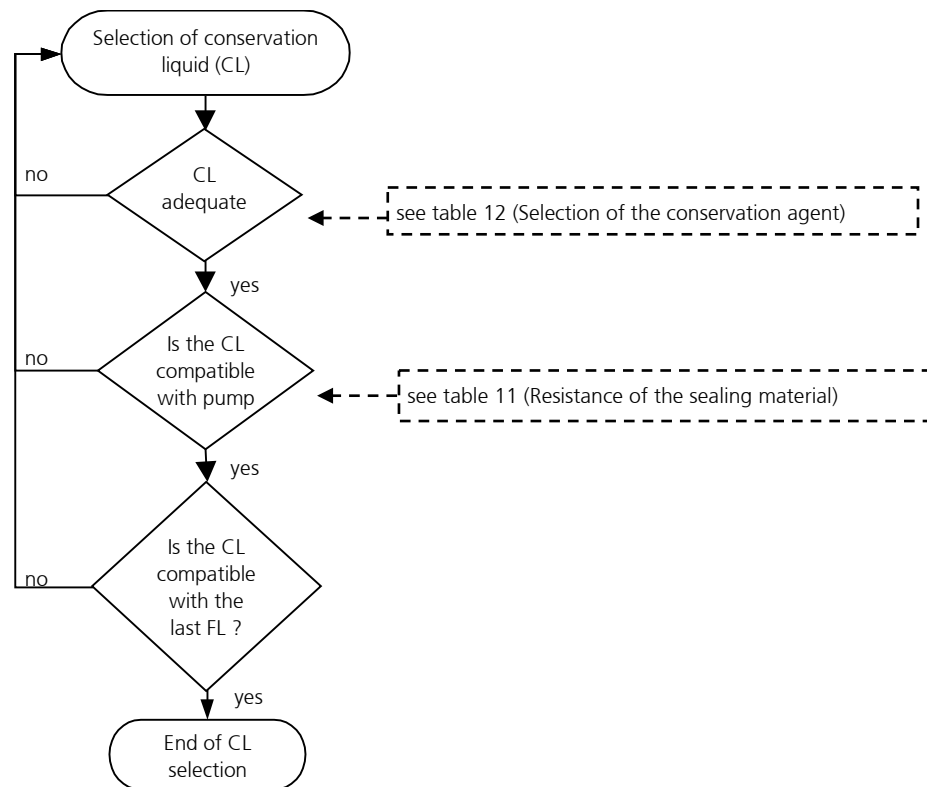

figure 14
*Remark:* This diagram is repeated as a part of the figure 14 (shutdown procedure of the micro annular gear pump).